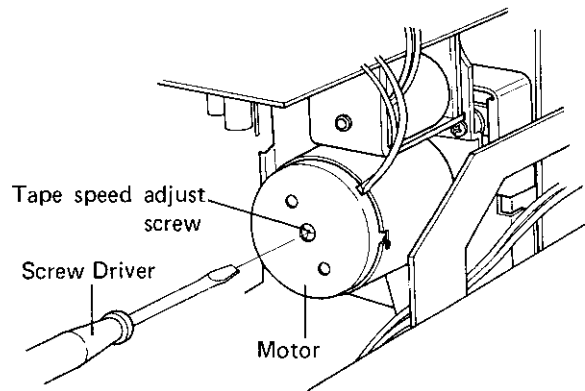

Fig. 7
2. Tape speed is increased by turning the screw anti-clockwise, and decreased by turning clockwise. (See Fig. 7).